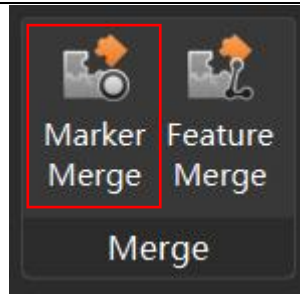

Figure 9-6 Figure 9-1 Marker Merge Button
2. Click the Marker Merge Button, which is shown in Figure 9-6;